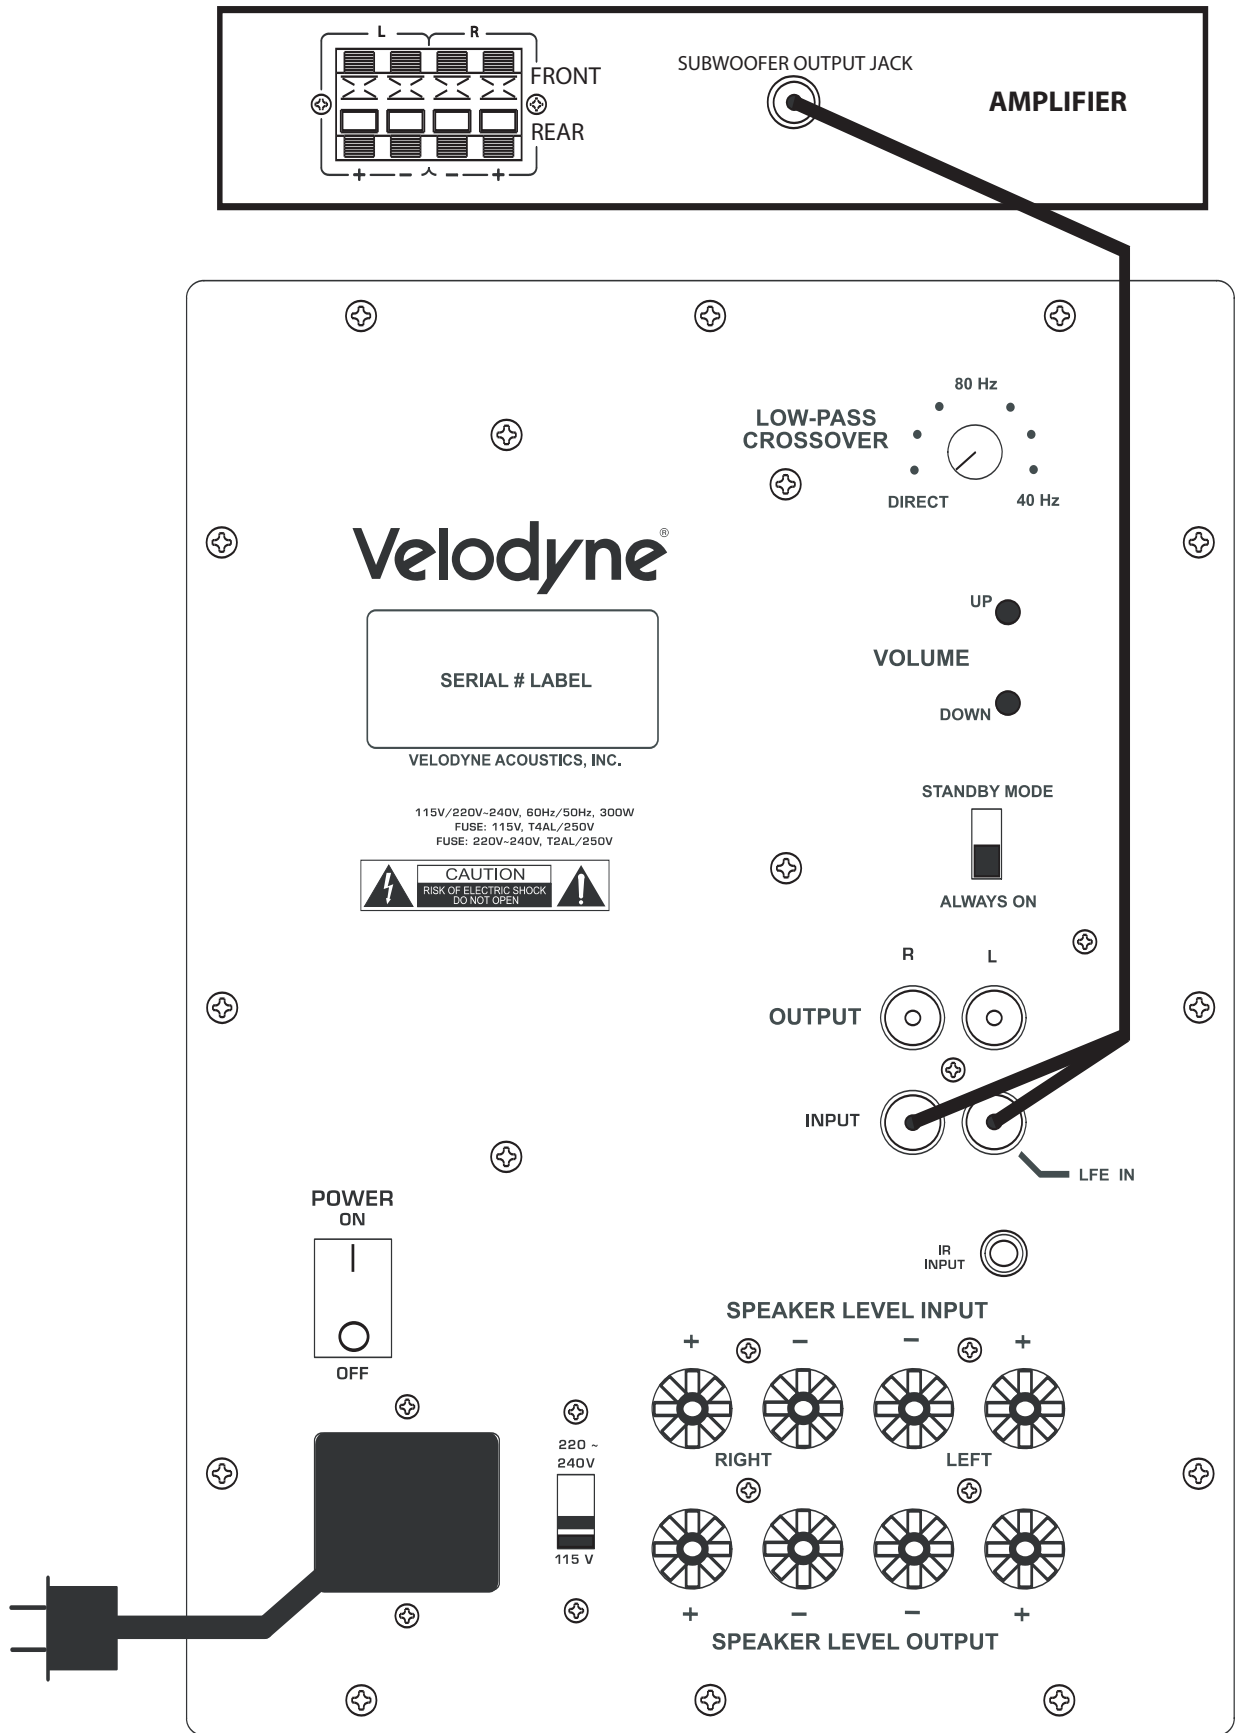
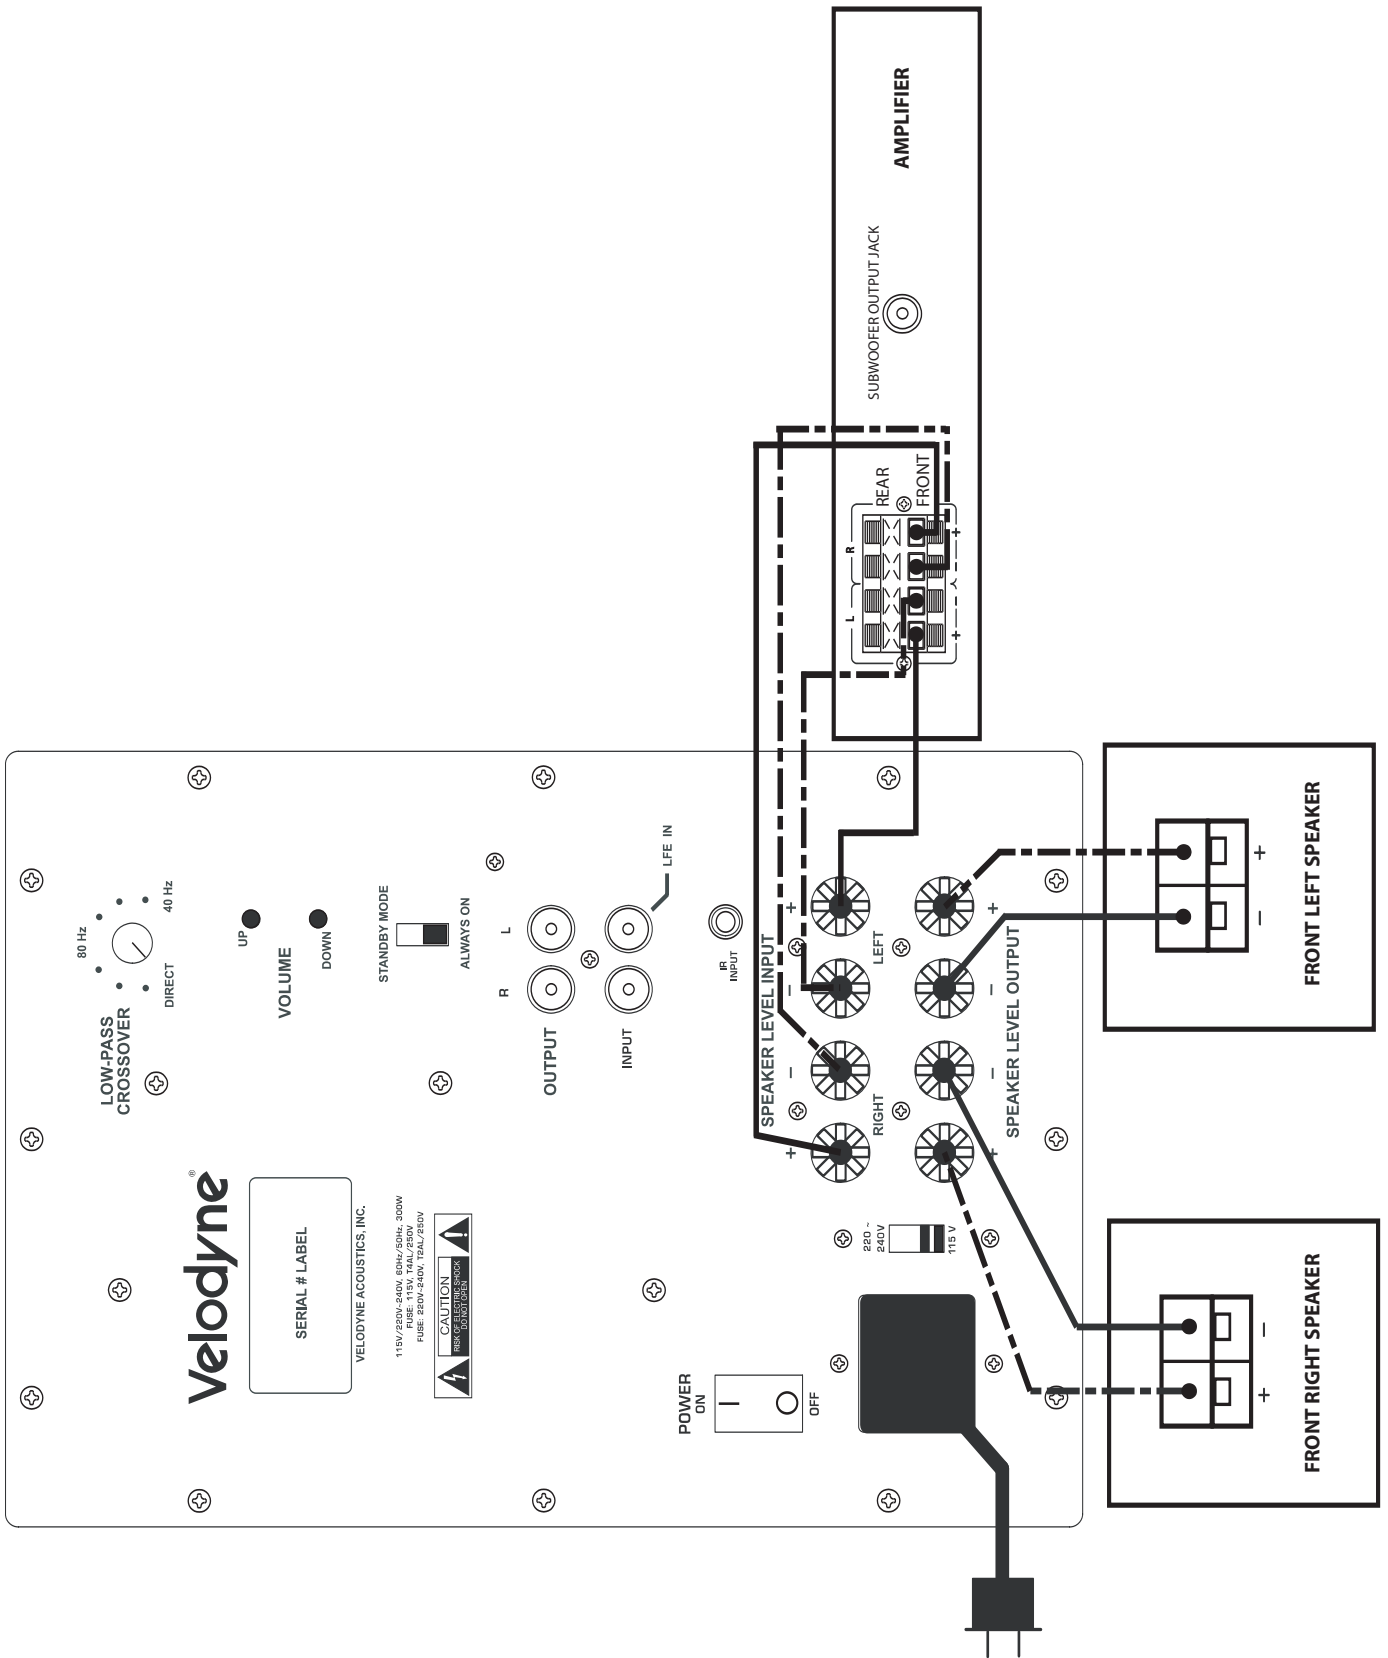

Figure 4. Line-Level Subwoofer Connection Diagram
Figure 5. Speaker-Level Subwoofer Connection Diagram
- 1) If using line level jacks, BOTH THE LEFT AND RIGHT INPUT SHOULD ALWAYS BE USED – never use just the left or just the right input. If using line level connections from a preamp or signal processor, use both Left and Right inputs from your preprocessor or preamp and connect them to the Left and Right inputs on your subwoofer. (See figure 4 on page 10.)
- 2) If using a receiver with LFE out, be sure the LFE channel is sending adequate signal to the subwoofer. The subwoofer's default volume setting is 30 on a 1-80 scale (roughly 1/3 volume). Adjust the LFE channel on your receiver or processor to achieve the desired bass output. See your receiver or processor's owner's manual for more information. (See figure 5 on page 11.)
*(Refer to Figure 4 Line-Level Subwoofer Connection Diagram and Figure 5 Speaker-Level Subwoofer Connection Diagram, pages 10 and 11 for connection diagrams.)*